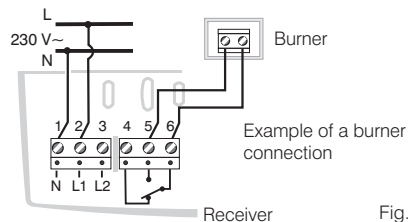

Fig. 6.i
With reference to figures 6.i, 7.i and 8.i:
- Hold the “—/—” key pressed until you hear a single audible signal; then let go: **the LED will flash** (fig.6).